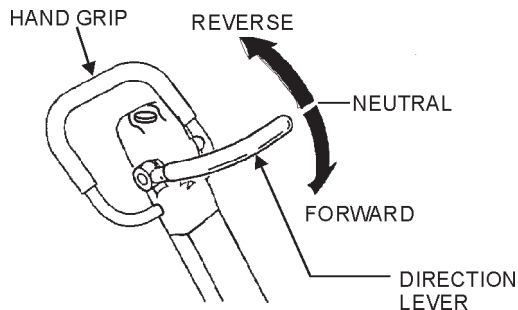

Figure 15. Direction Lever
1. Grasp the compactor's hand grip (Figure 15), and move the engine throttle lever quickly to the **fast** position.
3. To make the compactor move in the forward direction push the travel lever (Figure 15) forward.
4. To make the compactor move in the reverse direction pull the travel lever (Figure 15) backwards.